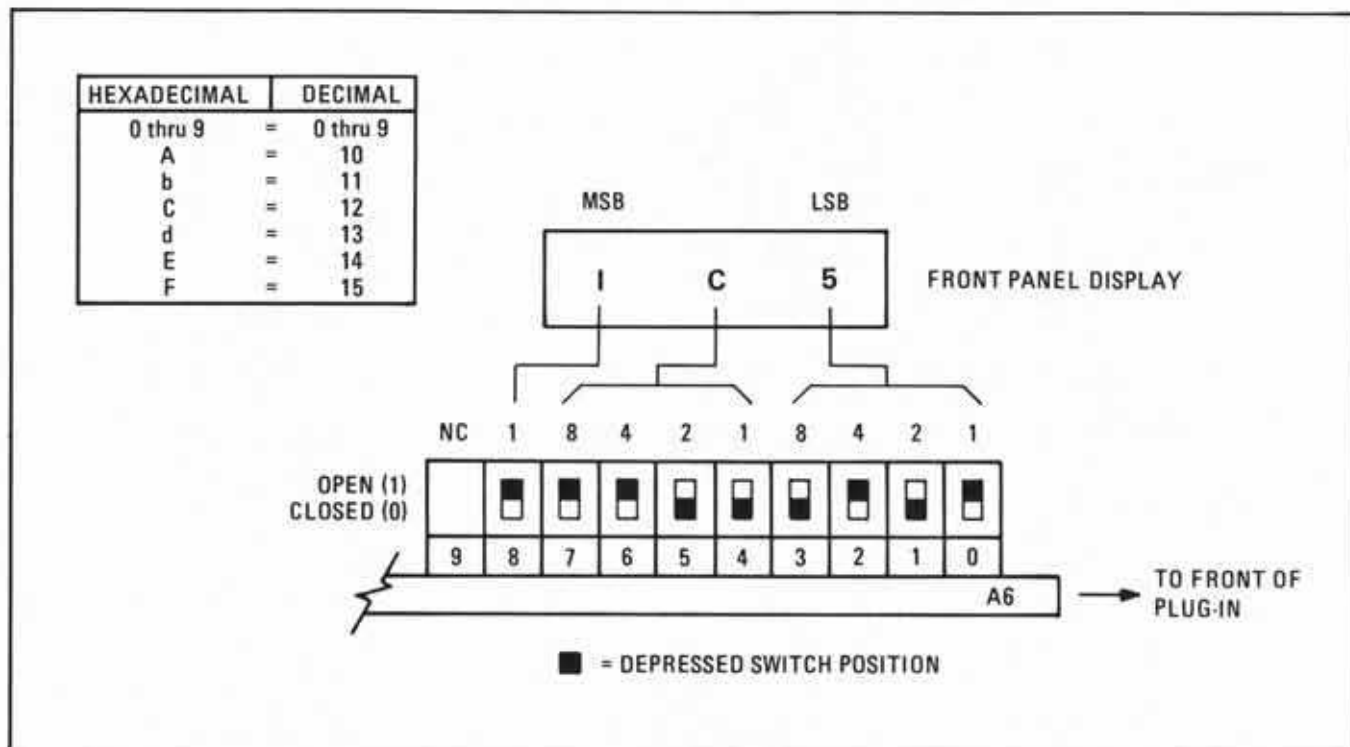

Figure 5-11. A6S1 and A6S2 Frequency Calibration Switch Configuration
14. Set switch A6S1 (Figure 5-10) for the value displayed in **POWER** window. Refer to the diagram in Figure 5-11.